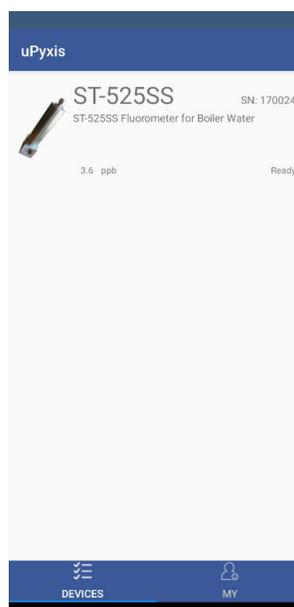

Figure 7.
3. If the connection is successful, the ST-525 Series and its Serial Number (SN) will be displayed (Figure 7).